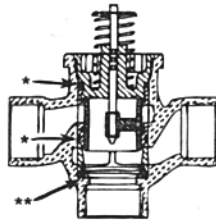

Fig. 6.
5. Clean the valve surfaces marked * and ** in Figure 6 to ensure the new cartridge O-rings seal at these points. Use care to avoid damage to these surfaces (** for 3-way valves only).